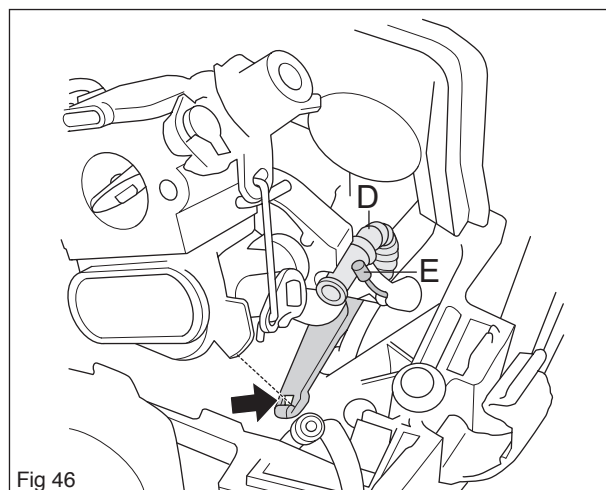

Fig 46
Hook on the throttle cable (E) in its mounting on the intake bellows. See figure 46.
Hook on the throttle cable, E. See figure 46.